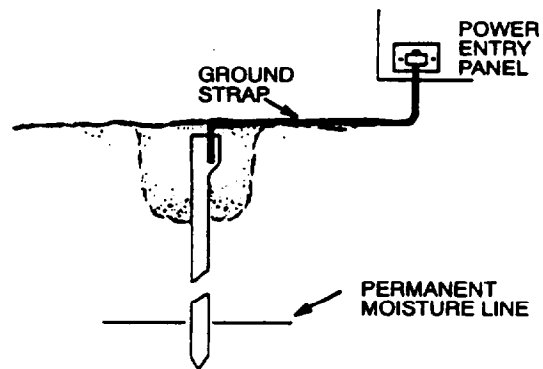

Figure G-6.
f. After you connect the ground strap (or heavy wire substitute) to the ground rod, connect the other end to the ground lug on the shelter or equipment. Keep the strap or wire as short and straight as possible, with no loops or knots. Make sure all connections are clean and tight. Figure G-6 shows a complete earth ground system.